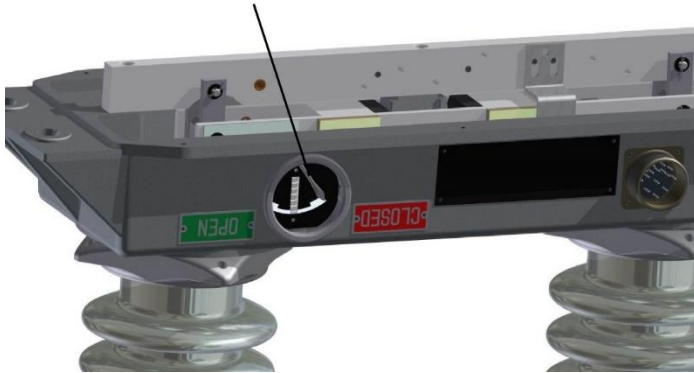

Figure 1
5. Invert the switch, remove the switch cover, and place the switch in the closed position as shown in Figure 1. Place a paper towel or rag in the space between the insulator and pull rod to prevent objects from accidentally falling into the module.